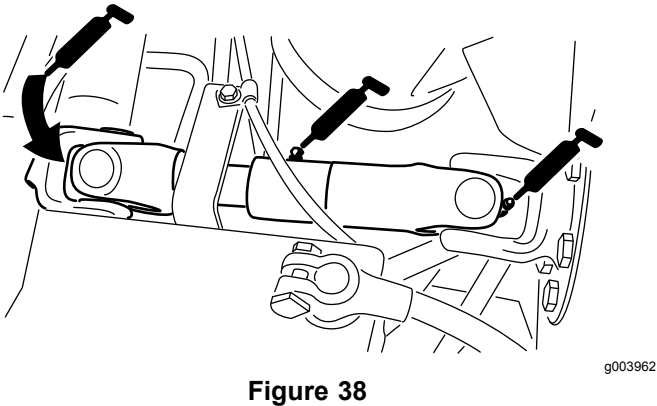

Figure 38
- Pump-driveshaft U-joint (3) (Figure 38)